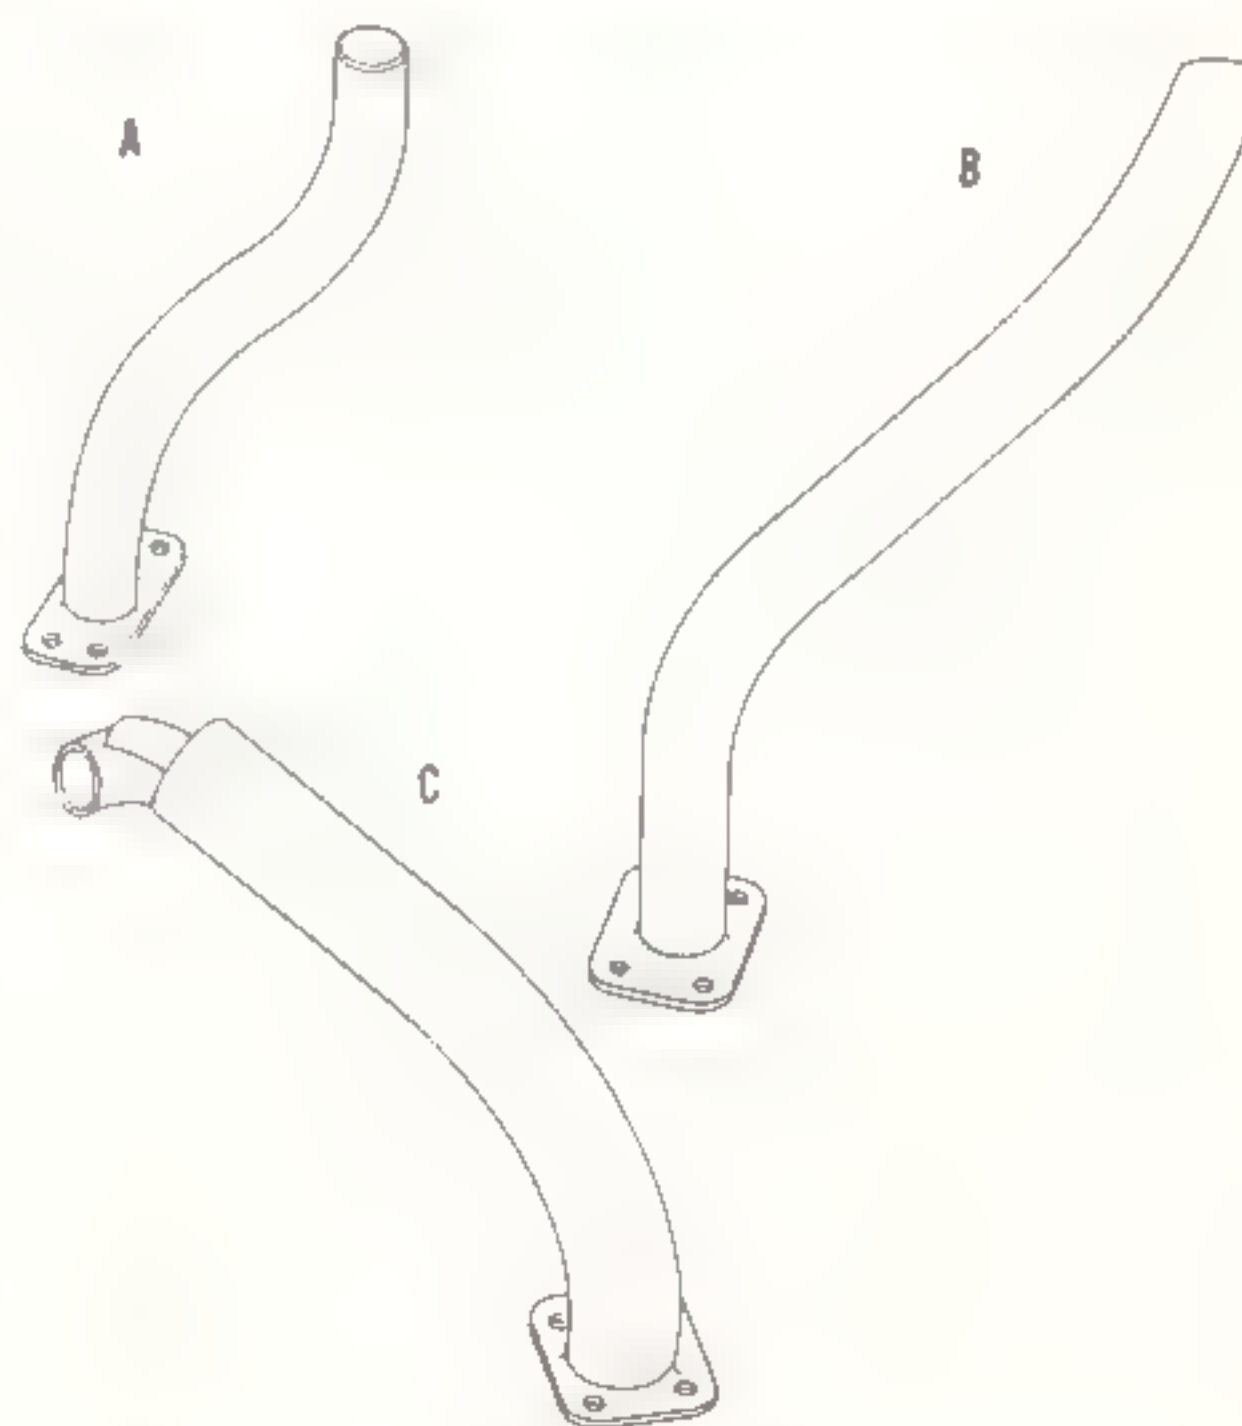

Figure 5-80. Accessory section and engine mount cooling tubes (rigid types)
clamped to the upper right part of the engine mount ring and to the fuel inlet line between the fuel pump and the carburetor. The flexible magneto cooling tube (1, figure 5-63) on the other magneto cooling tube (type B, table 5-5) is clamped to brackets on the hydraulic pump and oil strainer pad mounting studs. Cooling ram air from this cooling tube blows across the accessory section to the magneto. (See figure 5-80.)
f. Unclamp flexible magneto cooling tube (1) from brackets secured to hydraulic pump and oil strainer mounting pad.
g. Remove flexible magneto cooling tubes (1 and 3) from magneto cooling tubes (type B, table 5-5). (See figure 5-80.)
table 5-5) to intercyylinder deflector. Remove engine mount cooling tube by working aft end of cooling tube from beneath bead on fire seal and through asbestos seal. (See figure 5-80.)
i. Remove engine mount cooling tubes (type A, table 5-5) as follows: (See figure 5-80.)
(1) Remove bolts and washers securing collar to each flange on forward side of fire seal, and slide collar onto each engine mount cooling tube.
(2) Remove screws, washers, and nuts securing flanges on forward end of each engine mount cooling tube. Remove engine mount cooling tube.
5-197. *Installation.* a. Install engine mount cooling tubes (type A, table 5-5) as follows: (See figure 5-80.)
(2) Secure collars on aft ends of each engine mount cooling tube to flanges on forward side of fire seal with bolts and washers.
b. Insert aft ends of two magneto cooling tubes (type B, table 5-5) into asbestos seals at 8 and 12 o'clock positions on fire seal. Secure forward ends of each magneto cooling tube to proper intercyylinder deflector with screws, washers, and nuts. (See figure 5-80.) (Refer to table 5-5 for proper location and positioning of magneto cooling tubes.)